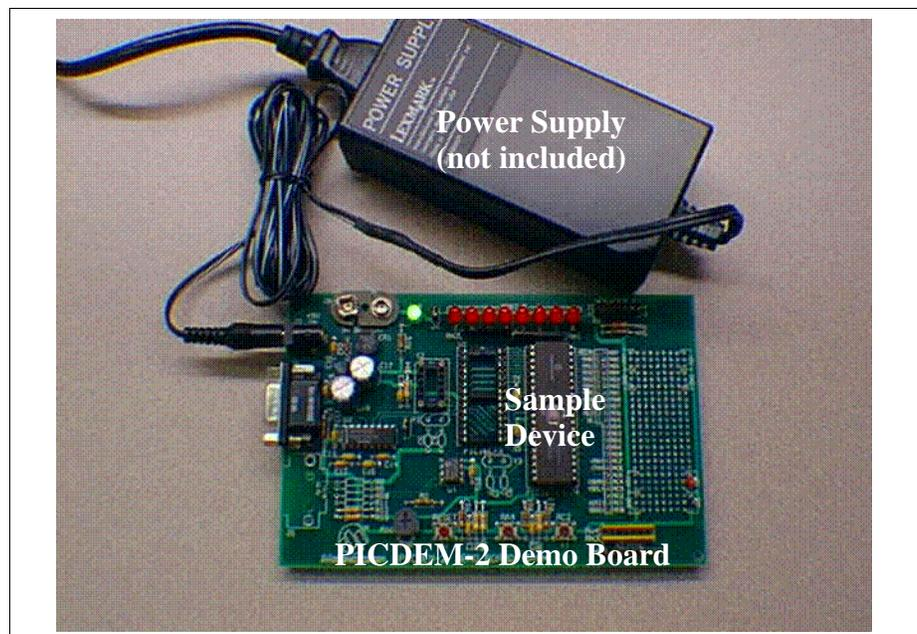

Figure 2.1: PICDEM-2 Stand-Alone
- Apply power to the PICDEM-2 (Figure 2.1). For information on acceptable power sources, see Appendix A.